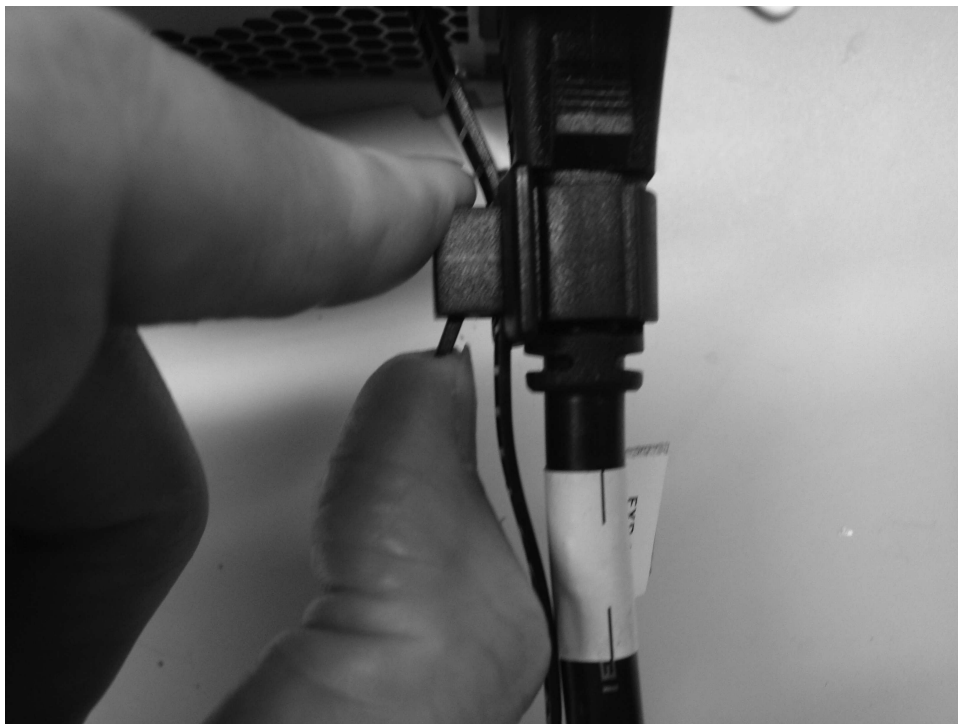

Figure 56. Sliding the cable retention bracket directly behind the power cord
6. Slide the cable retention bracket along the cord until it fits snugly against the plug end of the cable, as shown in Figure 56 on page 68.